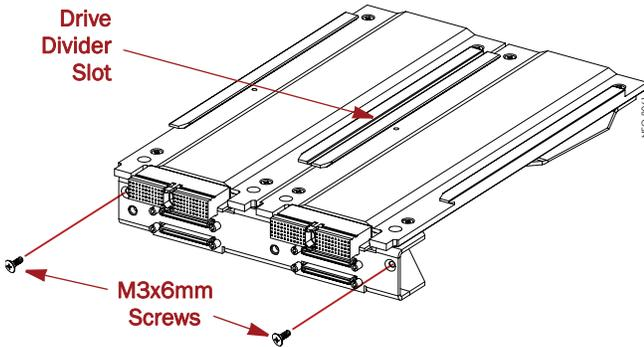

Figure 2. Hot Swap Assembly Mounting Screws
1. Remove the two **M2x6mm screws** (Figure 2) holding the assembly to the frame.